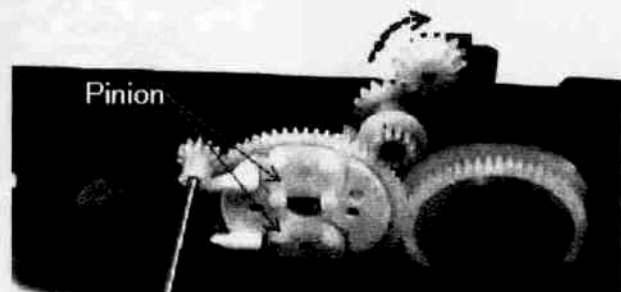

Fig.8
A) First insert CARRIAGE 30(63) between ARM(44) and TURN TABLE and set it until inside end. Push SLIDER 2(36) block down and slide it until inside end. CARRIAGE is locked with ARM.
- 1) Turn GEAR IDLER 2(17) clockwise. The lower PINION in GEAR SUPPORT turns anti-clockwise. After it stops, the upper PINION turns clockwise. Just before the lower PINION starts to turn, stop to turn GEAR IDLER 2. Set CARRIAGE 20(62) as fitting it with the lower PINION as Fig. 8.
6) After all CARRIAGES are set, turn DRAWER block upside-down. Insert FFC(75) straight into CONNECTOR(73) of CONNECTOR PC BOARD(70) with a pair of tweezers. Take care not to damage the Cable. (You may insert the Cable after item 9), just after fix the right side.)
7) In assembly of the left side of CHASSIS, GEAR IDLER A(39) has a direction.(See Fig.8) Set it as its marking faced to the front. (If it doesn't have any marking, no need to take care of direction.)